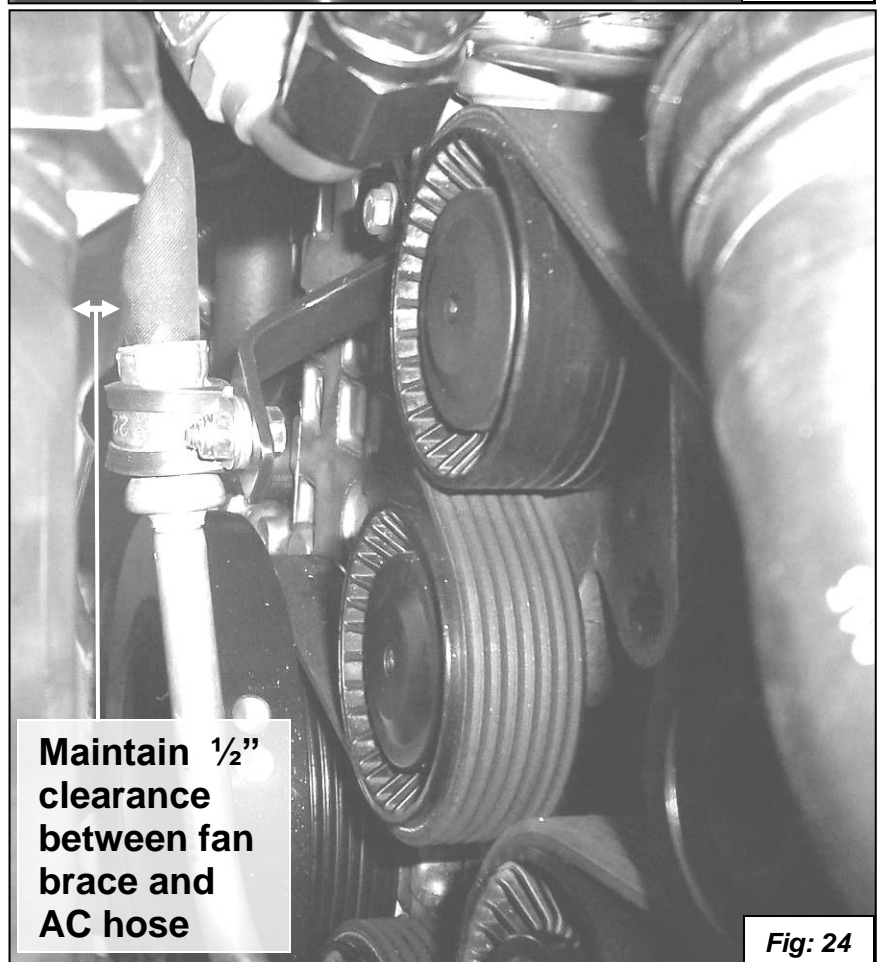

Fig: 24
26. Use the photo below to mount the new **AC Line Support Bracket** with the original bolt. Leave the mounting bolt loose enough that the Bracket can be easily rotated if necessary. The free end of this bracket should be just slightly higher than the mounted end or slightly up from level. Use the enclosed **#22 Loop Clamp, M6 x 16 bolt, M6 wave washer** and **M6 nylok nut** to attach the AC Line to the new Support Bracket. The goal is to lower the AC line about 2-1/2" at the swaged collar below the oil thermostat housing. You may want to leave the two bolts slightly loose until the Oil Lines are installed then tighten them when you are sure there is sufficient clearance, as they will still be easy to reach. Be careful to maintain about 1/2" or more clearance between the AC line and the rear of the auxiliary fan assembly at the closest point. You do not want the AC line to hit the fan assembly during hard braking. **See figure 24.**